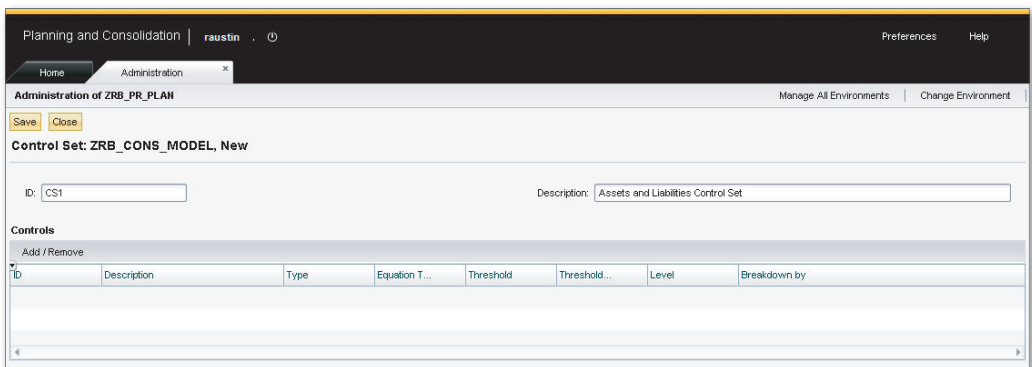
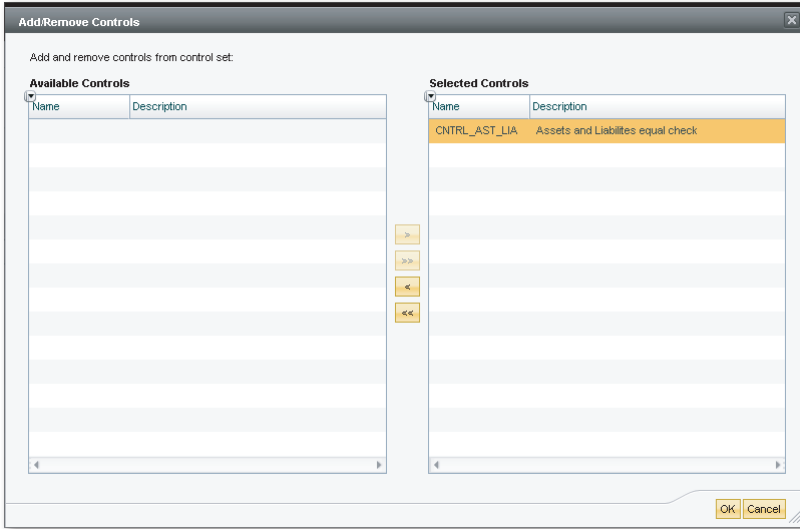

Figure 9.28 Configuring and Running Controls—Part G
Figure 9.29 Configuring and Running Controls—Part H
8. In the interface for creating a control set, enter an ID for the control set (Figure 9.28). Click on the **ADD/REMOVE** menu button to select the controls for the new control set. Select the controls you want to associate to the control set (Figure 9.29), and then save the control set and return to the control set interface.